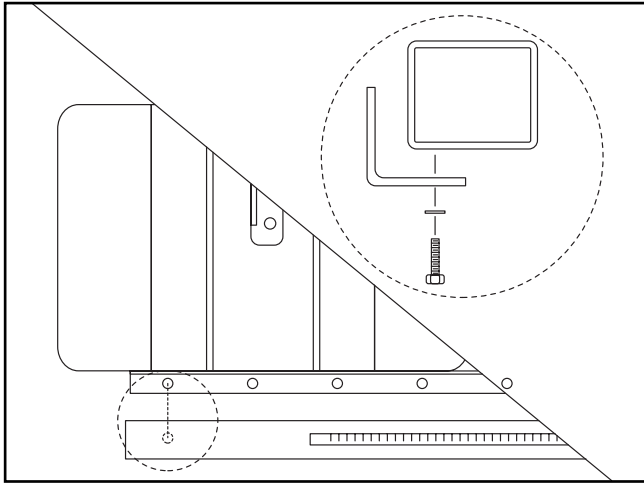

Figure 10A. Attaching fence tube to front rail.
- Attach the square fence tube to the front rail using the hex bolts and lock washers supplied. See **Figure 10A**.